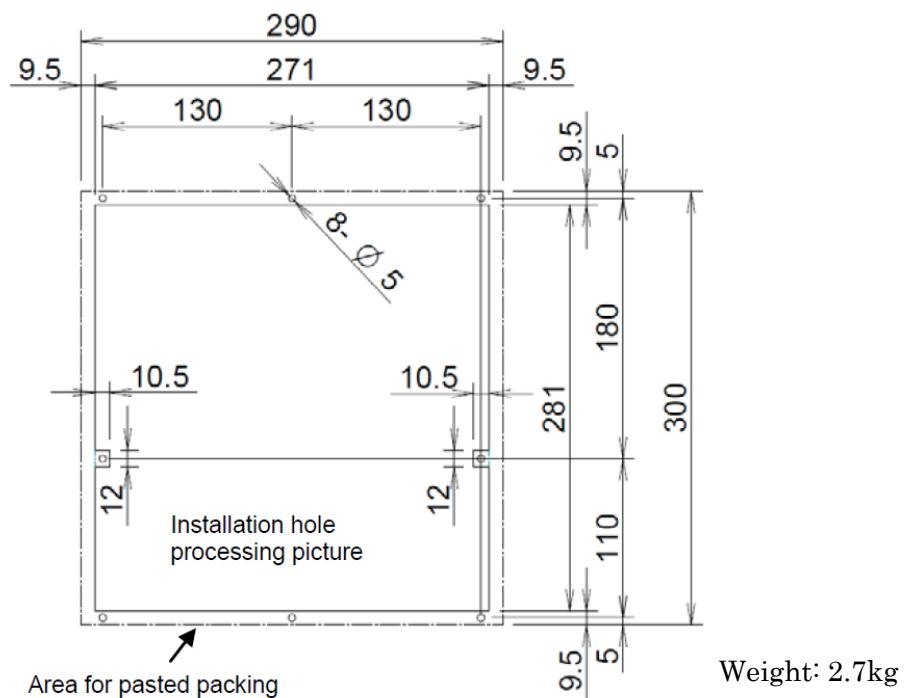

Fig. U17 10.4" LCD/MDI unit B(Vertical) 08
10.4" LCD/MDI unit B(Vertical)	Fig. U17